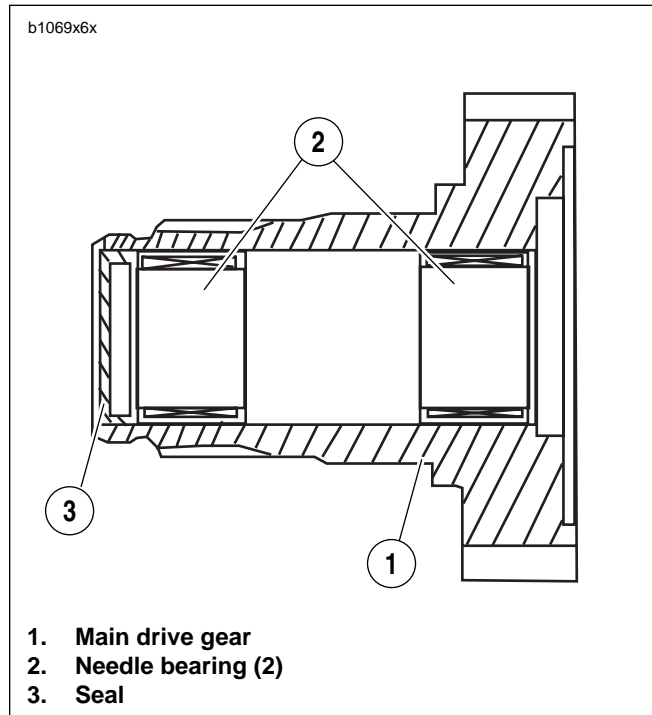

Figure 6-37. Main Drive Gear Assembly
3. See Figure 6-37. From inside case tap out seal at end of mainshaft 5th gear. Discard seal.